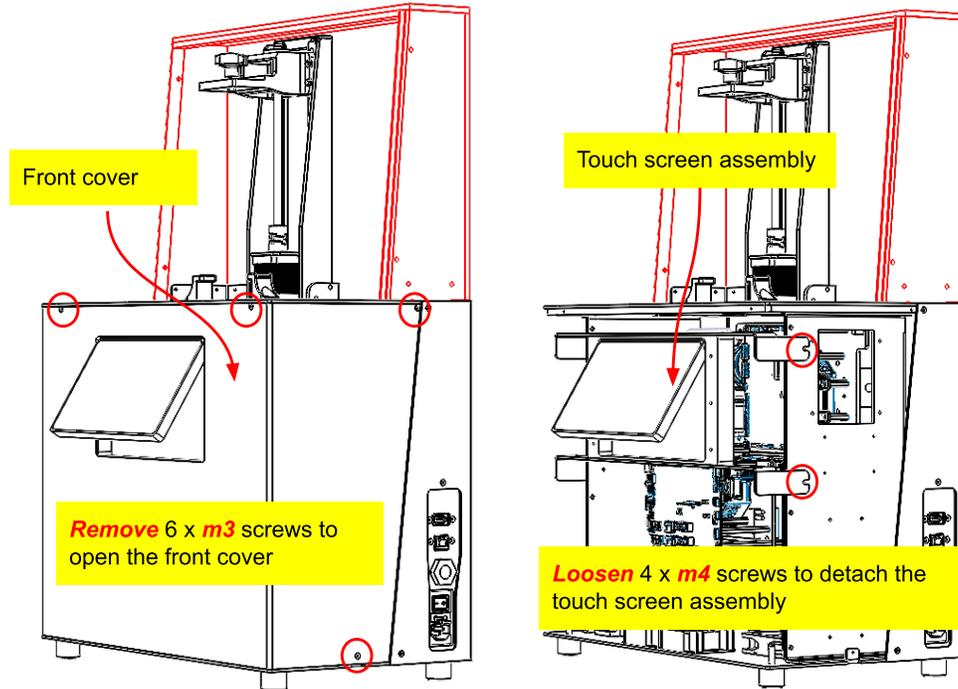

Fig. 12. Removal of the front cover and touch screen assembly
- The front cover is fixed using 6 x m3 screws. Remove them as shown in **Fig. 12**.